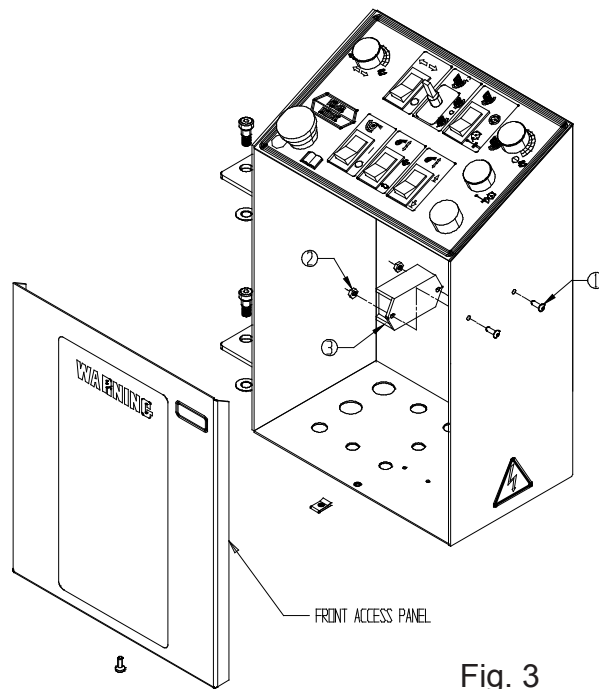

Fig. 3
- Step 5: Clean up any debris and mount the Voltage Regulator to the side using the two #8 screws and nuts provided. (See Figure 3.)